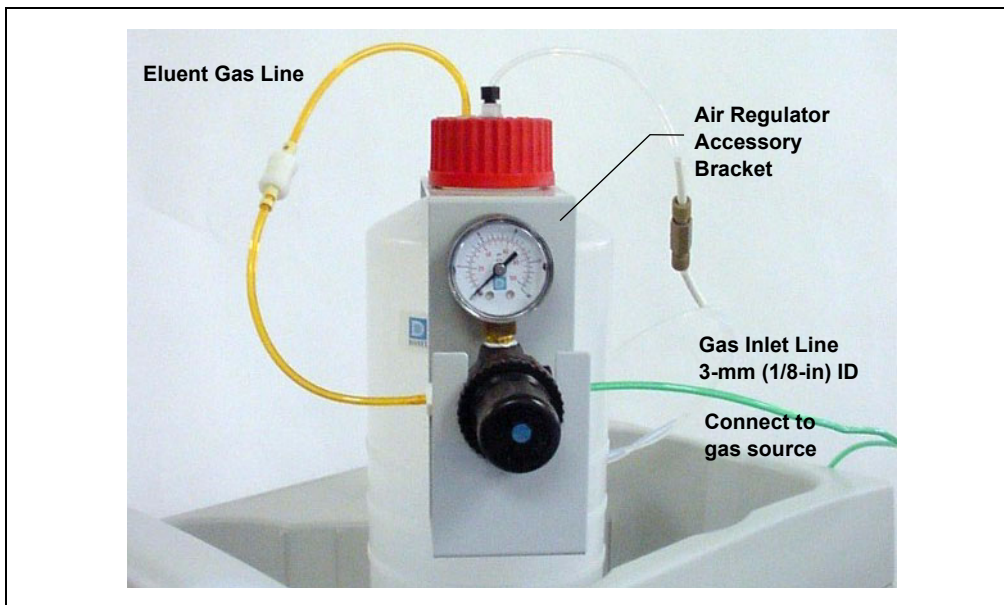

Figure 46. ICS-1000 Pressurized Eluent Reservoir Connections (Optional)
3. Push the other end of the tubing onto the inlet of the air regulator (see Figure 46).
6. Slip the air regulator accessory bracket over the neck of the eluent reservoir (see Figure 46).